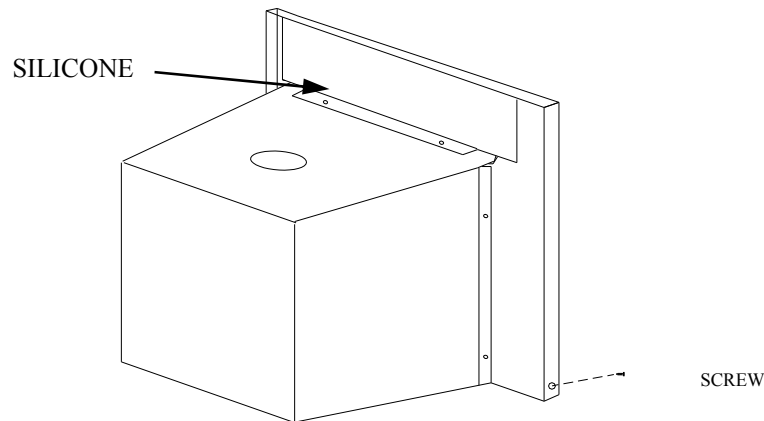

FIGURE 4
13. Next using high heat silicone or furnace cement run heavy bead of caulking around where panels meet the stove. (See Figure 4).